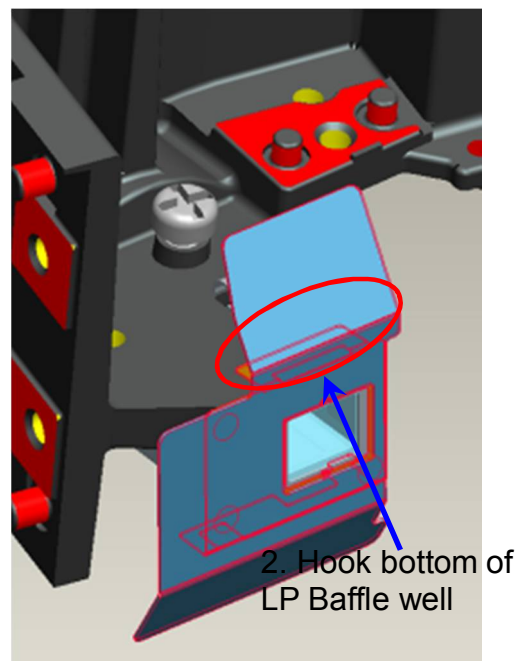

Fig. I-7
- v. Assembly “Baffle LP”, Hook top of Baffle LP first (Fig. 4-10) & Hook bottom of Baffle LP to HSG DMD well (Fig. I-7).